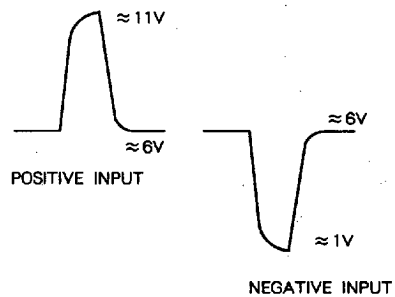

Fig. 5
When the IC is used at voltage outside the rated range, remove filters from pins ⑦ and ⑨, and check the waveform to ensure that it is as shown in Fig. 5.